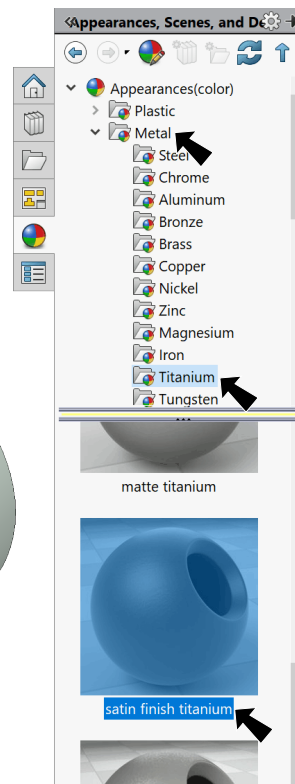

Fig. 10
**satin finish titanium**, **Fig. 10**.